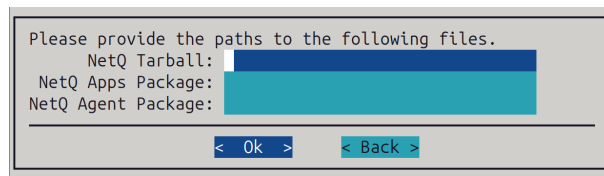

Figure 2.7: NetQ deployment: setting paths to the installation packages
7. The paths to the NetQ tarball and Debian packages are set (figure 2.7):